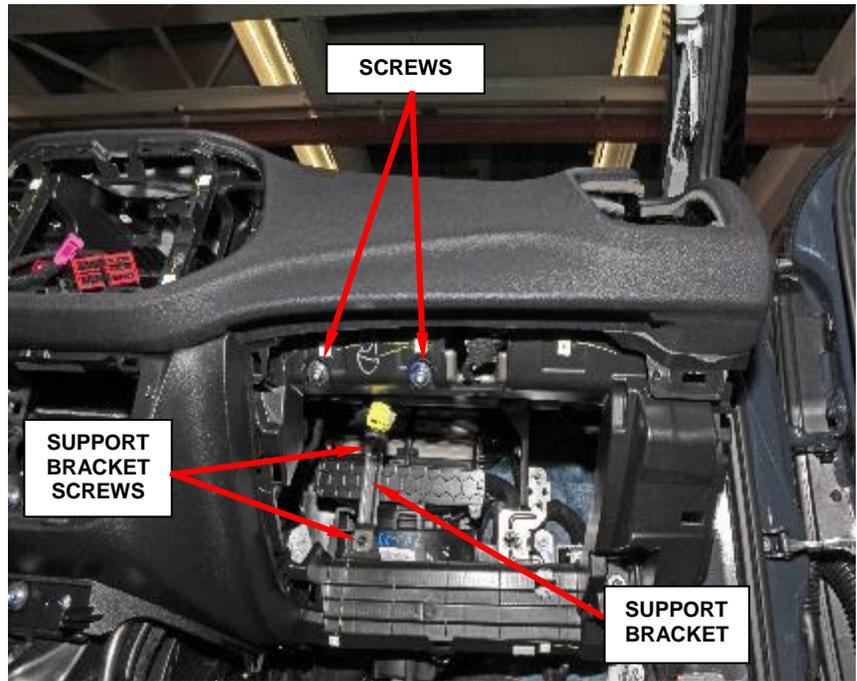

Figure 26 – Instrument Panel Mounting Screws
67. Remove the two large screws located at the top of the glove box opening (Figure 26).
68. Remove the screws and the support bracket located deep in the glove box opening (Figure 26).